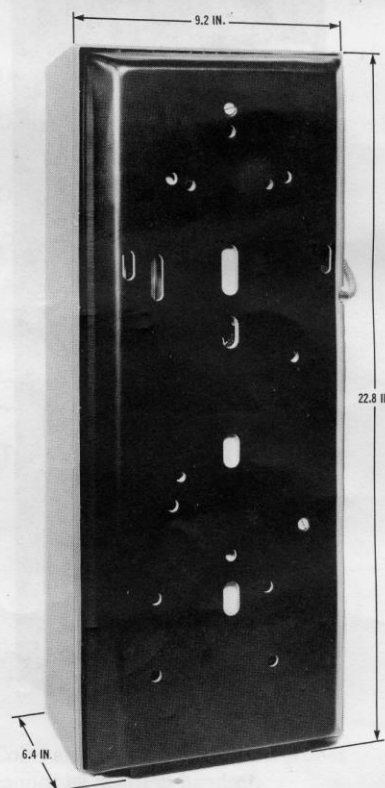

Fig. 3 — Rear View of CENTURION Coin Telephone Set
2.08 The set weighs approximately 50 pounds (22.7 kilograms). The overall dimensions are shown in Fig. 3.